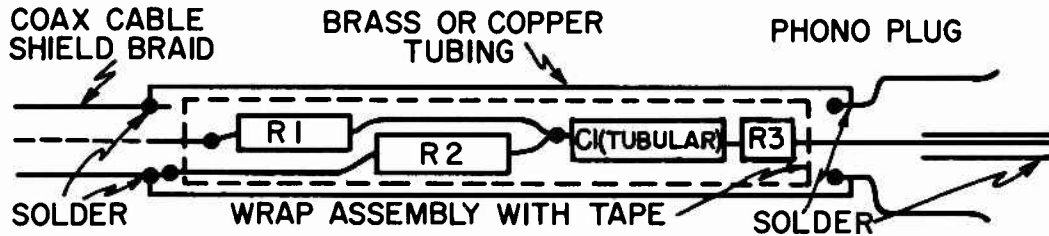

FIG. 3 I-F INJECTION PLUG CONSTRUCTION
*NOTE: The I-F injection jack is not a phono type receptacle. The connection is made by the end of the phono plug touching the contact inside the injection jack. The outside shell of the plug grips the injection jack firmly. Press plug firmly into place without excess pressure. See Figure 3 for plug construction.